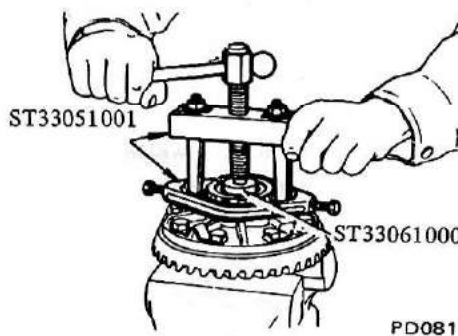

Fig. PD-12 Removing side bearing
1. When replacing side bearing, use Gear Carrier Side Bearing Puller ST3306S001 (set of ST33051001 and ST33061000). See Figure PD-12.